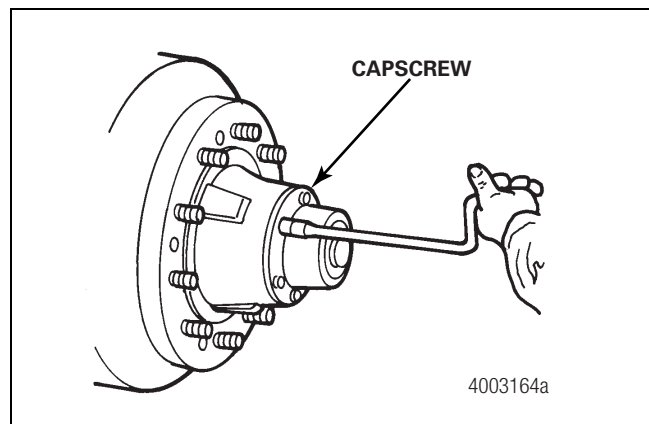

Figure 3.6
8. Place a container under the hubcap to receive the draining oil, then remove the hubcap and hubcap gasket. Figure 3.6.